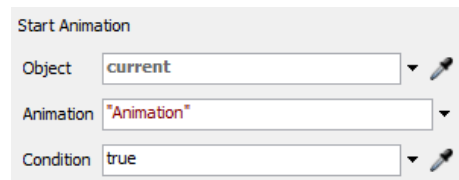

Fig. 20 Start Animation /Stop Animation
6. **Start Animation /Stop Animation** – allows you to start or stop the indicated animation (Fig. 20). You can indicate the animation by entering its name or its assigned number, e.g.: the animation of opening doors in a truck is called *OpenDoorsStopped* and has the number 1.